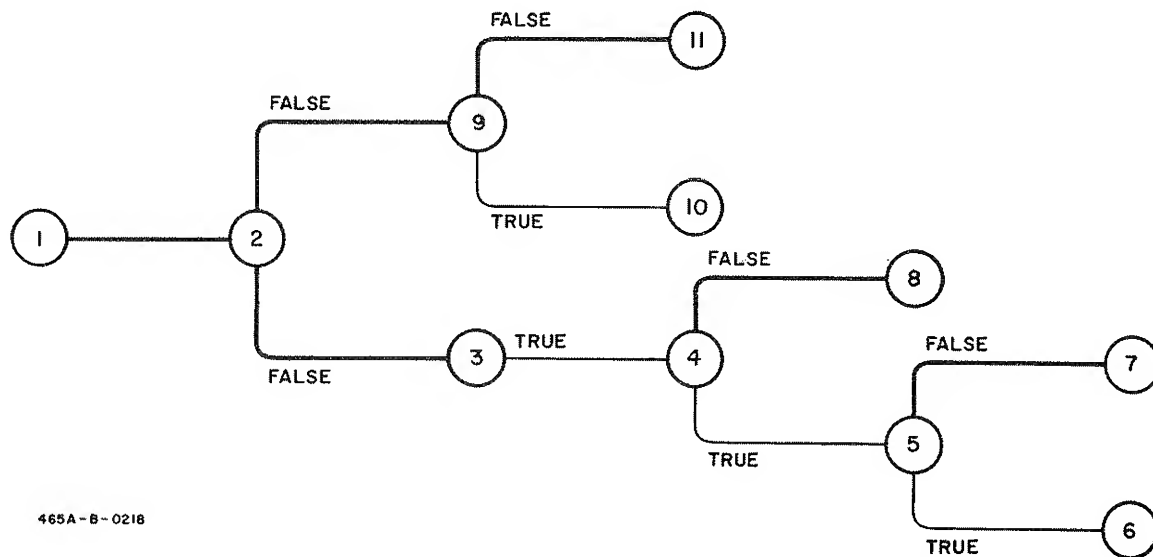

Figure 5-4. Troubleshooting Tree
5-25. Table 5-5, in conjunction with Figure 5-4, contains procedures which may be used as a guide in isolating malfunctions. The steps in Table 5-5 describe the normal conditions which should be encountered during the checks (circled numbers (N)) in Figure 5-4.
5-27. The conditions discussed in Table 5-5 and Figure 5-4 are based on the following criteria: (1) the + side of C14 is removed from circuit, opening the feedback loop; (2) Model 465A GAIN set to 40 db; and (3) 1 mv, 2 kc signal applied to Model 465A INPUT.